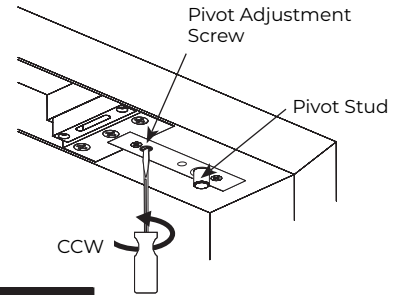

Figure 6
1. Ensure pivot stud is fully retracted into pivot by turning pivot adjustment screw counter clockwise with a flathead screwdriver. (Figure 6)